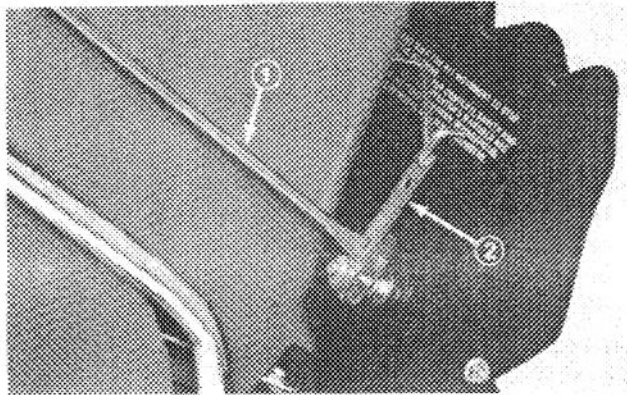

Figure 1
1. Insert flattened end of vane control into slot in vane adjustment bracket (Fig. 1).